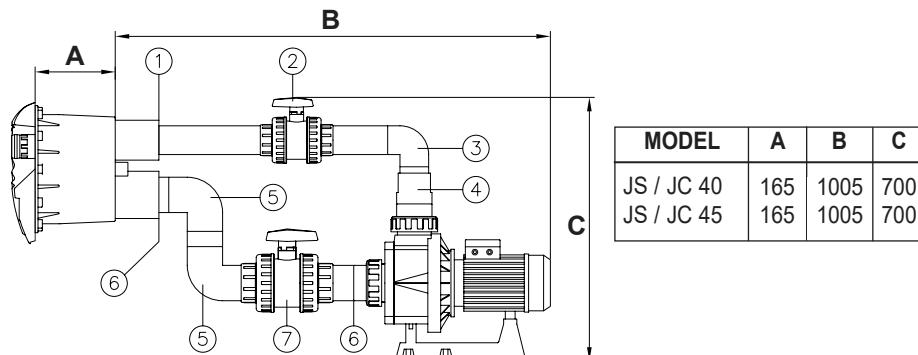

Fig. 6
- Glue the 75×63 mm. reducing bush (no.1, fig. 6) to the discharge mouth of the niche (see fig. 6).
- Glue a $\varnothing 63$ mm. pipe (*) in the reducing bush (no.1, fig. 6).
- Glue the $\varnothing 63$ mm. valve (no.2, fig. 6) to the $\varnothing 63$ mm. pipe (*).
- Glue a $\varnothing 63$ mm. pipe (*) to the $\varnothing 63$ mm. pipe (no.2, fig. 6).
- Glue the $\varnothing 63$ mm. elbow (no.3, fig. 6) to the $\varnothing 63$ mm. pipe (*).
- Glue a $\varnothing 63$ mm. pipe (*) to the elbow (no.3, fig.6).
- Glue a $90/75/63$ mm. conical reducer (no.4, fig. 6) to the $\varnothing 63$ mm. pipe (*) and the $\varnothing 90$ mm. connector on the pump.
- Glue the 90×75 mm. reducing bush (no.6, fig. 6) in the suction mouth of the niche (see fig. 6).
- Using a $\varnothing 75$ mm. pipe (*), glue a $\varnothing 75$ mm. elbow (no.5, fig. 6) on to the reducing bush (no.6, fig. 6).
- Using a $\varnothing 75$ mm. pipe (*) join the other $\varnothing 75$ mm. elbow (no.5, fig. 6) to the elbow already glued (see fig. 6).
- Glue the $\varnothing 75$ mm. valve (no.7, fig. 6) to the elbow (no.5, fig. 6) using a $\varnothing 75$ mm. pipe (*) to join them.
- Glue a $\varnothing 75$ mm. pipe (*) to the valve (no.7, fig. 6).
- Glue a 90×75 mm. reducing bush (no.6, fig. 6) to the $\varnothing 75$ mm. pipe (*) and the $\varnothing 90$ mm. connector on the pump.*)